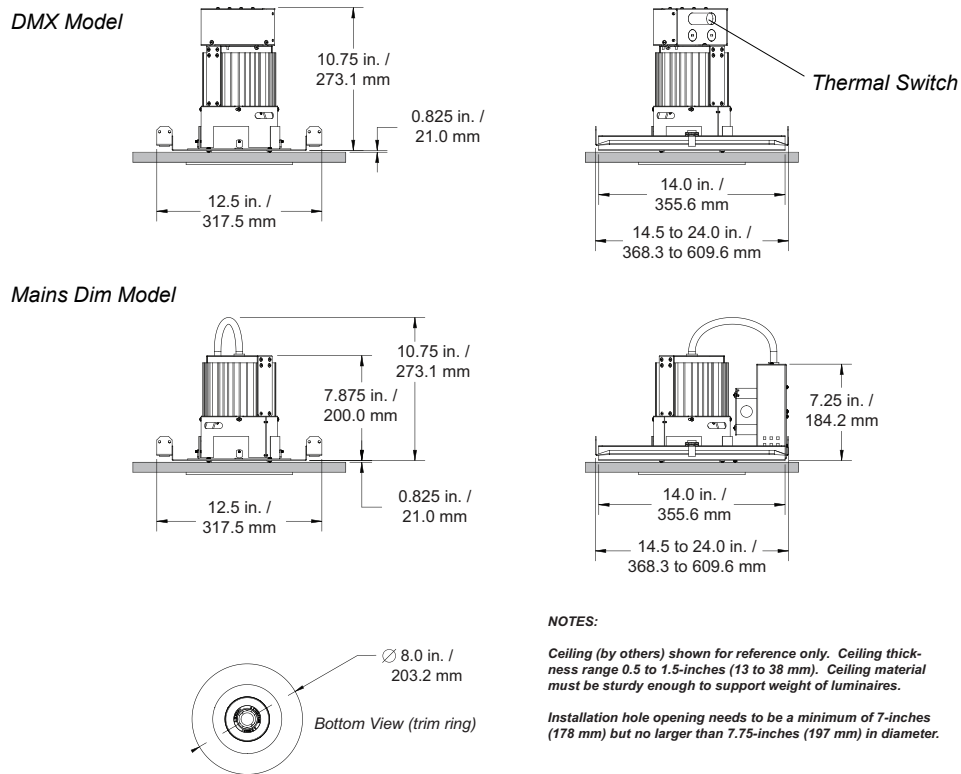

Figure 7: CDR70 New Construction Mount
Step 2. Install CDR70 new construction mounting tray to joist work following the dimensions in **Figure 7**.